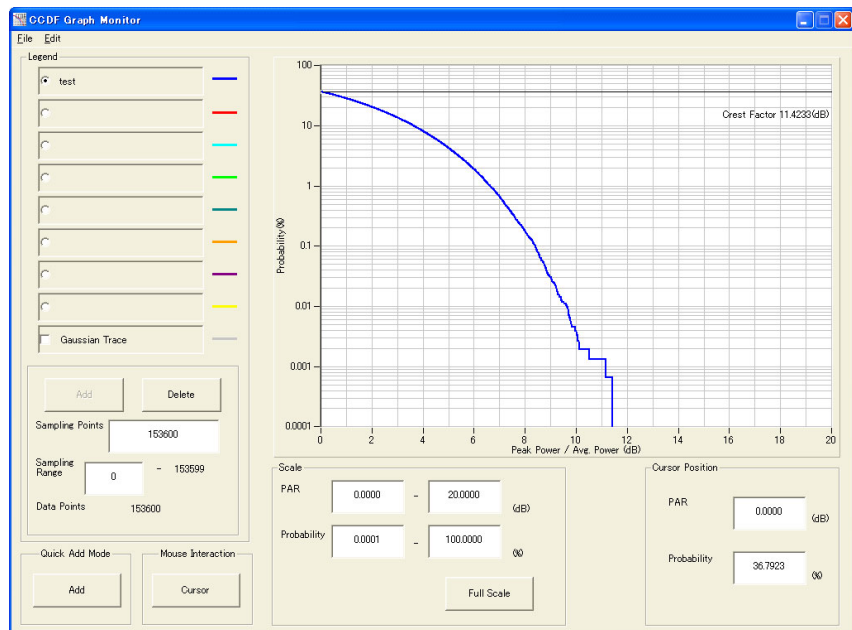

Figure 3.4-1 CCDF Graph Monitor screen
2. Select **[CCDF]** from the **[Simulation]** menu or click the  tool button. The CCDF Graph Monitor screen shown in Figure 3.4-1 is displayed with the trace of the generated waveform pattern.